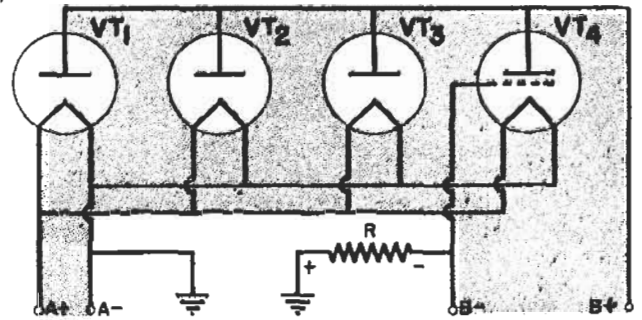

FIG. 25. The voltage drop produced by plate current flow through  $R$  produces an automatic C bias.
**Automatic C Bias.** Another method of biasing the tube without the use of a C battery is shown in Fig. 25. Electrons flow from each tube filament to its plate, then to  $B+$  and through the B supply to  $B-$ . In order to get back to the filaments,